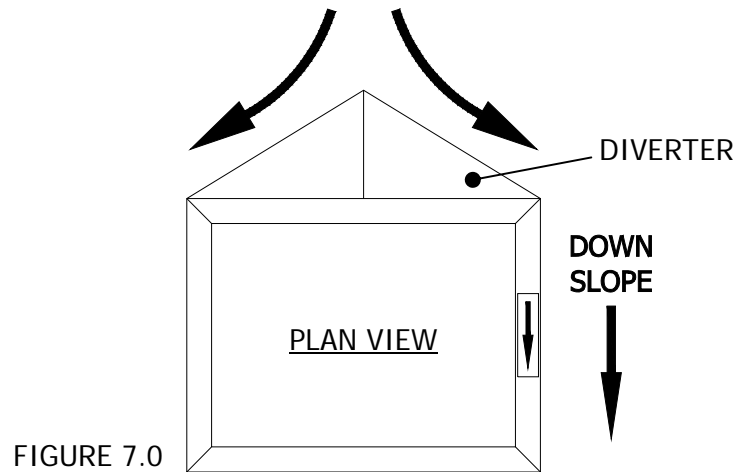

FIGURE 7.0
- On steep slope roofs a minimum 12" height above the roof is recommended and diverters should be used (See Figure 7.0).